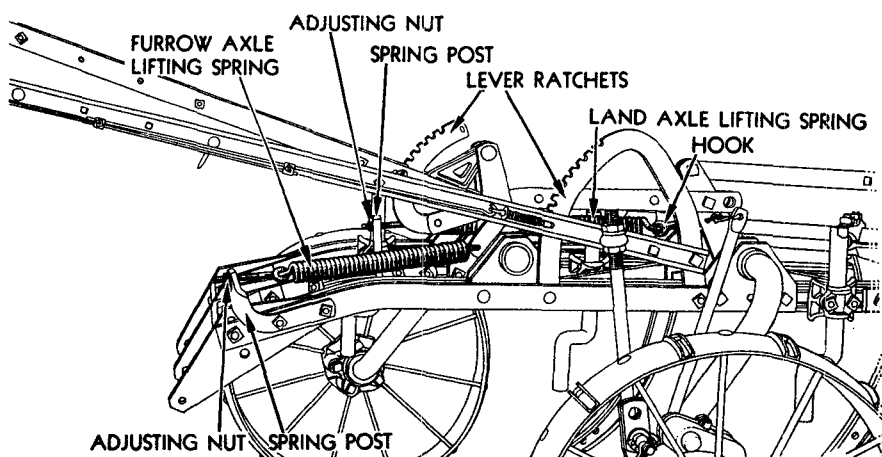

FIGURE 11—LIFTING SPRINGS
9. **LIFTING SPRINGS.**—Pull both levers down into lowest setting on lever ratchets. Place plow in lifted position by moving trip lever forward on lifting clutch and pulling plow forward until the plow is lifted and clutch locks into position. One revolution of the land wheel will lift the plow. Hook smaller lifting spring to crank on furrow axle. (Figure 11.) Put spring adjusting bolt through post on frame and adjust to medium tension. Attach larger lifting spring to eye in hook on land axle crank. Put spring adjusting bolt through post on second beam and adjust to medium tension. (See operating instructions for adjusting.)